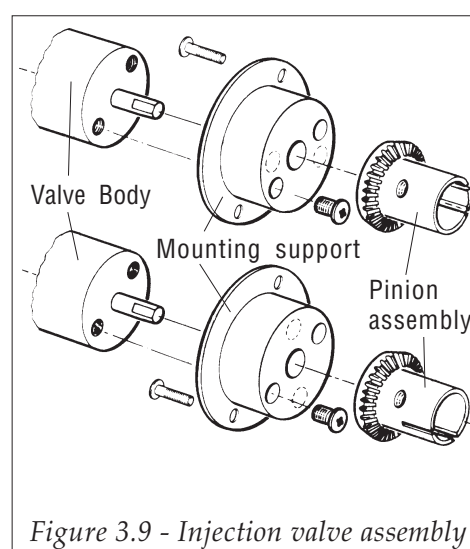

Figure 3.9 - Injection valve assembly
- Loosen the two screws and remove the mounting support from the body (refer to Figure 3.9).